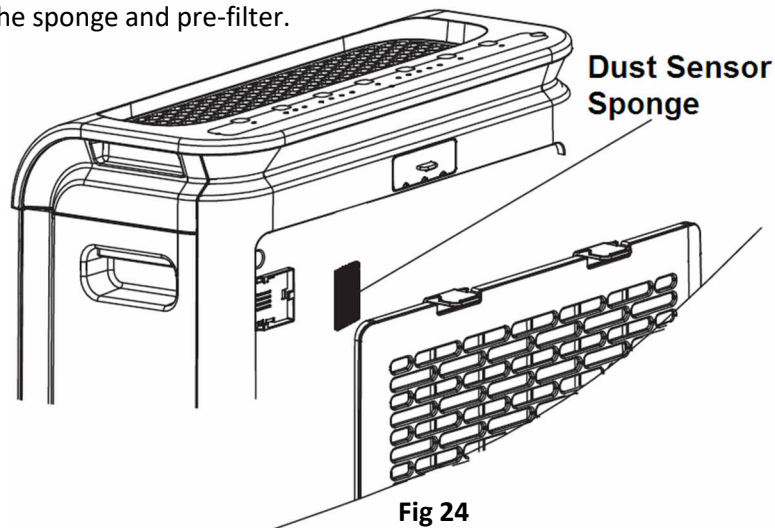

Fig 24
- 2) Take out the dust sensor sponge. (Fig 24)